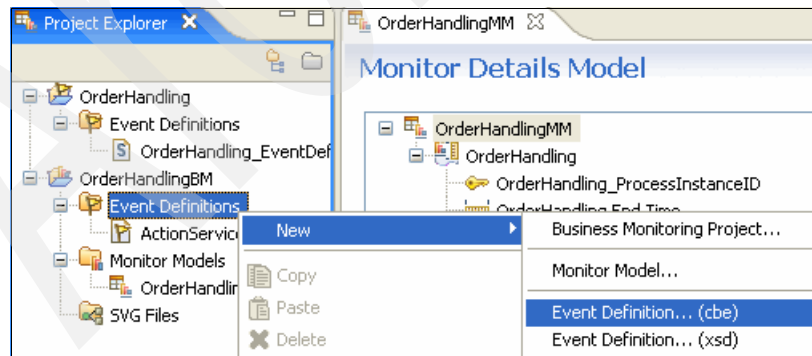

Figure 8-84 Creating a new Common Base Event event definition
32. Add an outbound event in the monitor model so that when one order handling fulfillment duration is too long, the alert can be sent. Create a new event definition. In the Project Explorer view (Figure 8-84), expand **OrderHandlingBM**, right-click **Event Definitions**, and select **New** → **Event Definition... (cbe)**.